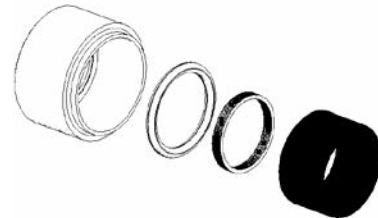

Figure 7
2. Plunger Guide / Vacuum Seal Assembly: (Fig. 7)